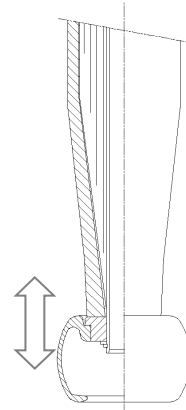

Fig. 17
- Deflector removable upwards (fig. 17): it can be unscrewed upwards.